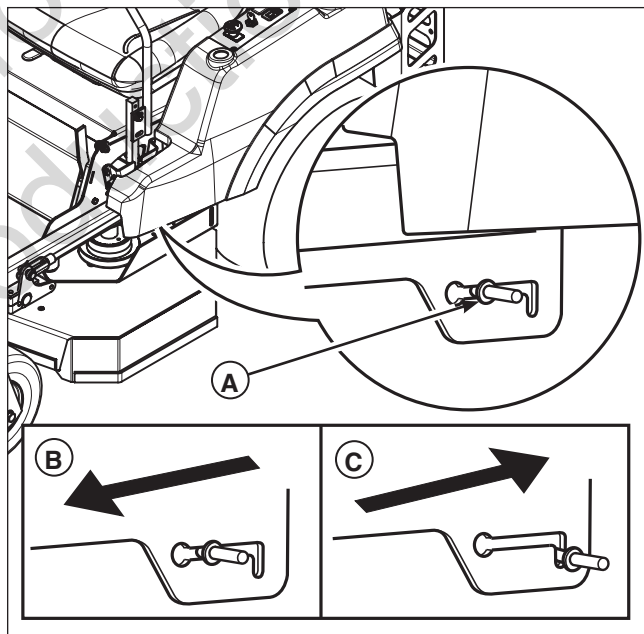

Figure 8. Transmission Release Levers (LH shown)
2. Locate the transmission release levers (A, Figure 8) located underneath the front of the fuel tanks.
3. Pull both transmission release levers back and down so that they lock in the disengaged (free-wheel position) (C).